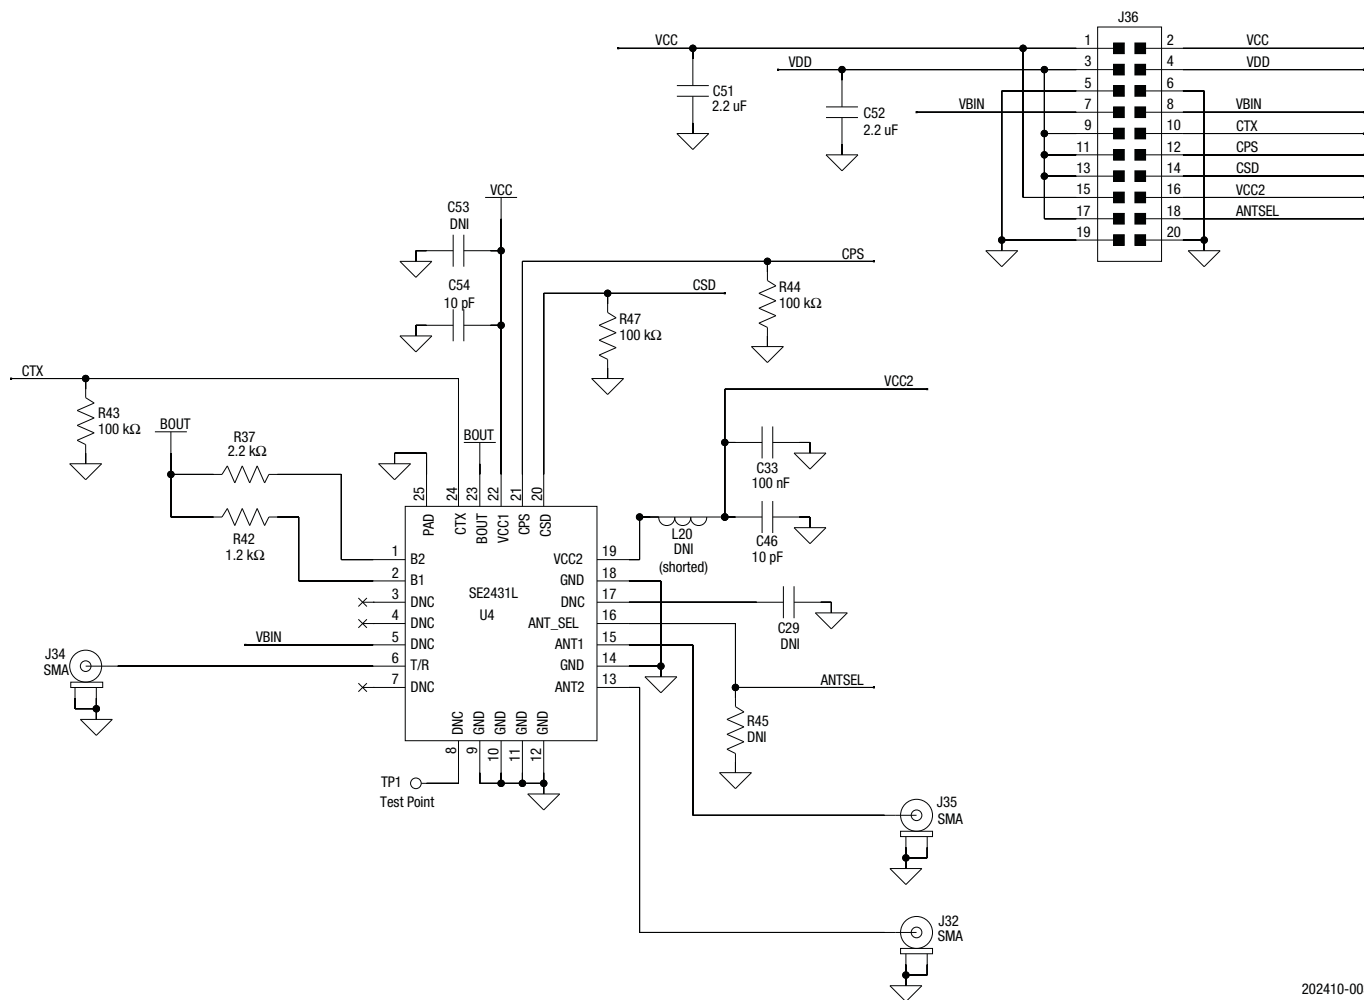
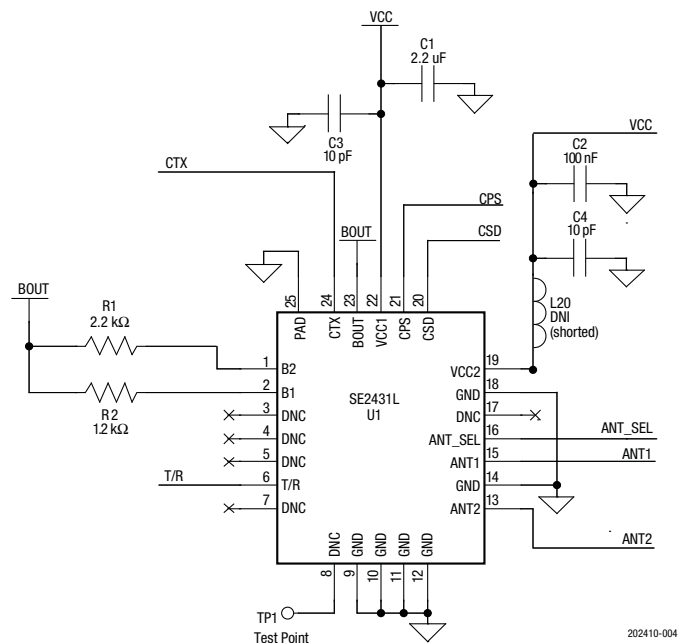
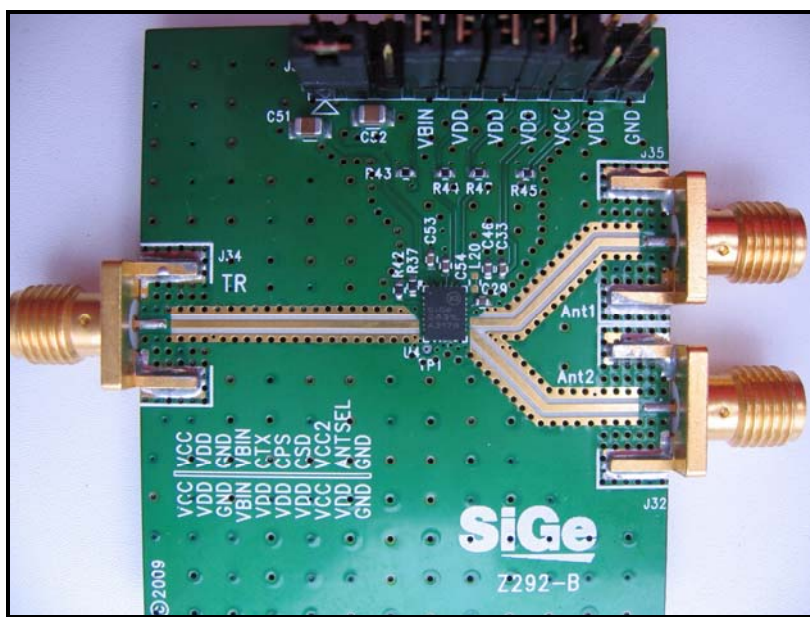

Figure 3. SE2431L Evaluation Board Schematic
Figure 4. SE2431L Reference Design Schematic
Figure 5. SE2431L Evaluation Board
The SE2431L Evaluation Board is used to test the performance of the SE2431L front-end module (FEM). An Evaluation Board schematic diagram is provided in Figure 3. A reference design schematic is shown in Figure 4. A photograph of the Evaluation Board is shown in Figure 5. A Bill of Materials (BOM) for the Evaluation Board is provided in Table 9.
**Notes to Figure 5:**